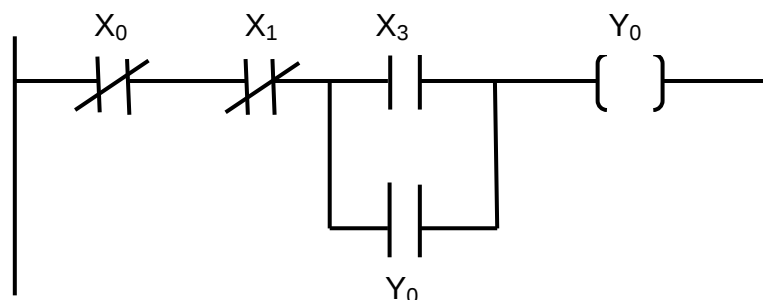

FIGURE 9.2: LADDER LOGIC DIAGRAM
9.5 FIGURE 9.2 below represents a ladder logic diagram.
9.5.2 Draw the relay control circuit that represents the ladder diagram in FIGURE 9.2. (6)